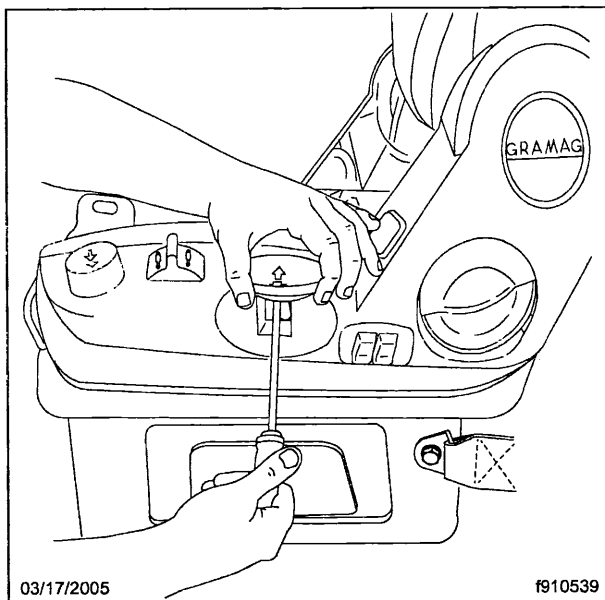

Fig. 9, Remove the Height Adjustment Lever
11. Locate the screw on the underside of the height adjustment lever. Using a Torx screwdriver, raise the lever to the full up position and remove the screw, then pull off the lever. Standard seats do not have this lever. See **Fig. 9**.